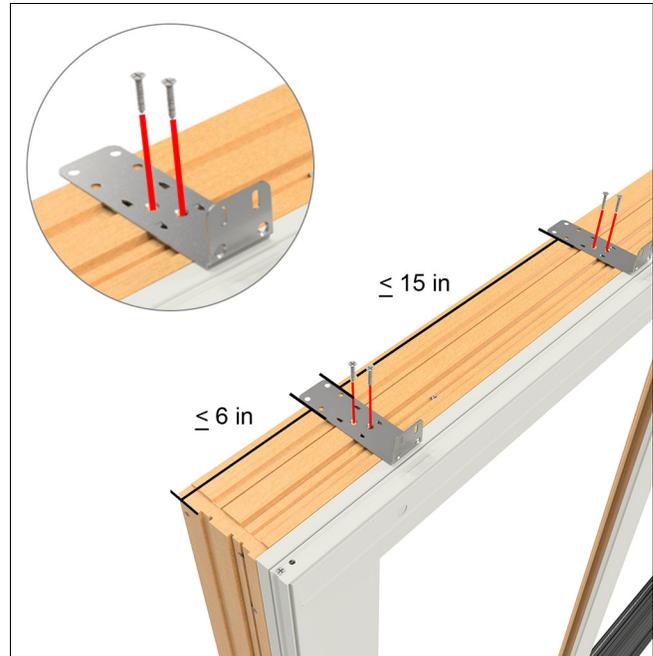

Figure 12
6. On all units, apply structural brackets to the head jamb above the stationary panels once you are ready to place it in the opening permanently. Place the brackets 6" (152) from each corner and a maximum of 15" (381) apart over the stationary panel. Fasten with #8 x 7/8" screws to attach the structural bracket to the unit. See Figure 12.